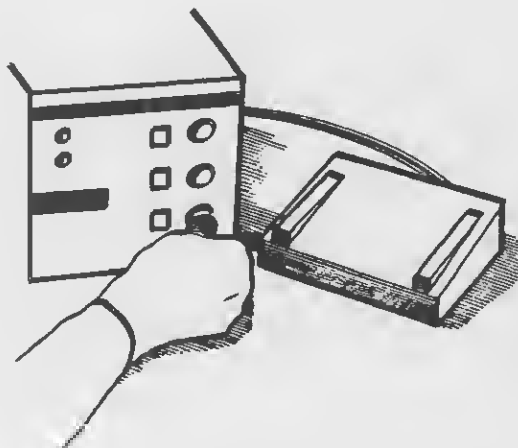

Figure 2-18. Foot control connection.
k. Insert the footswitch connection plug into the corresponding receptacle on the APS console (fig 2-18). Then depress the blue footswitch selector switch beside the footswitch connector. When the footswitch selector illuminates, the footswitch is activated, and the fingertip controls will no longer regulate the handpieces.